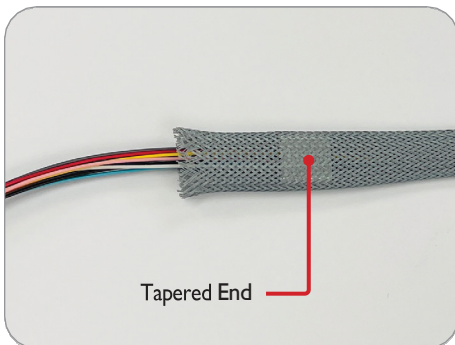

Figure 9
2. Slide the Mesh Insert over the pigtails with the tapered end toward the mesh and slide the mesh tube an inch or two over the Mesh Insert. (Figure 9)